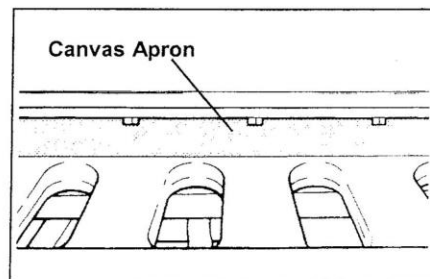

Figure 9i Canvas Apron
4. Inspect the canvas apron (Figure 9i). Replace the apron if it is worn.